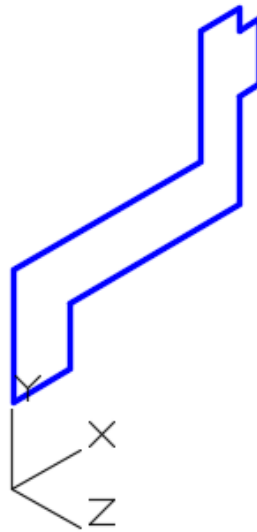

Figure Step 5
Step 5 Using the multiview drawing as a reference, draw one-half of the right side cross section of the solid part of the object. (Figure Step 5)